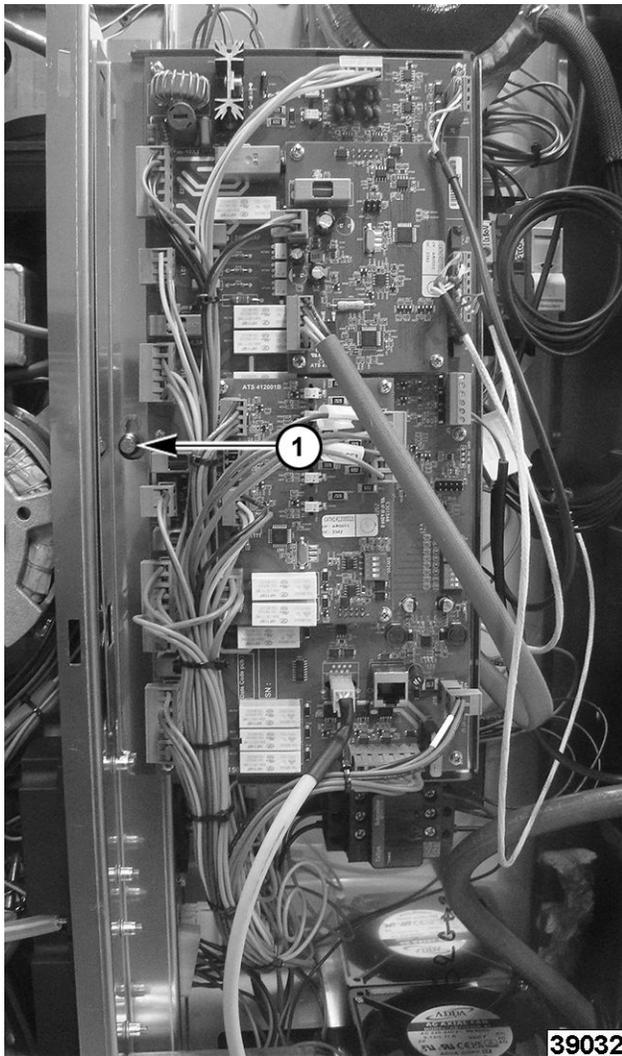

Fig. 9
- Loosen board bracket mounting screw (1, Fig. 9).